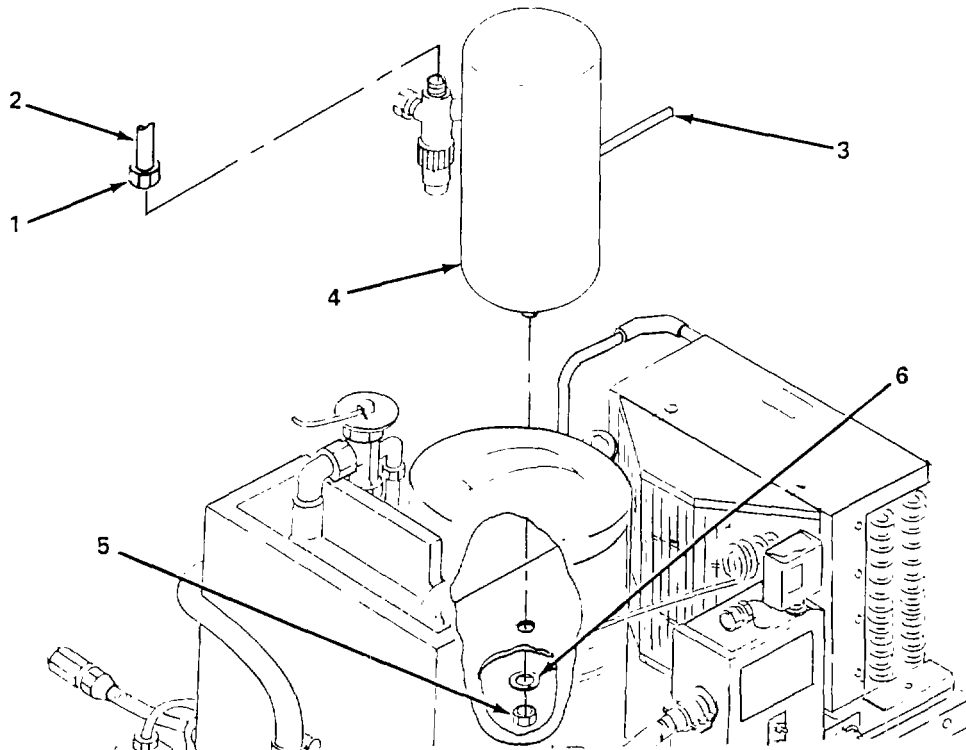

Figure 6-22. Condensing Unit Hermetic Receiver Tank, Replace.
(3) *Replace receiver tank.* (figure 6-22).
- (b) Loosen fitting nut (1) and remove line (2).
- (c) Desolder liquid tube (3) from receiver tank (4).
- (d) Remove nut (5) and lockwasher (6) and remove receiver tank (4).
- (e) Install receiver tank (4) and secure with lockwasher (6) and nut (5).
- (f) Solder liquid tube (3) to receiver tank (4).
- (g) Install line (2) and tighten fitting nut (1).